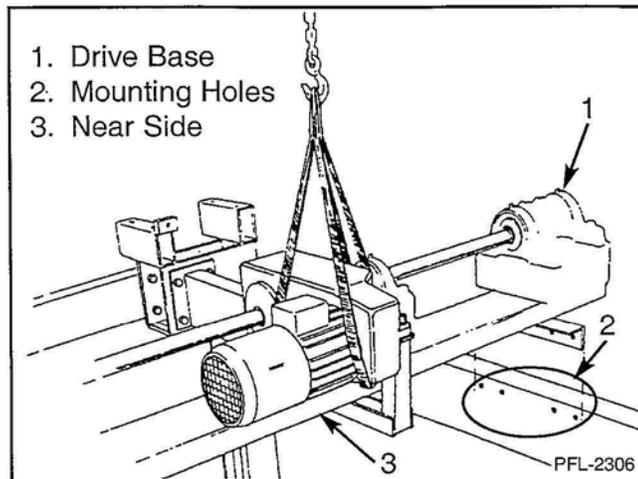

Figure 16
20. Line up the four mounting holes on the right and left channel braces with the holes in the drive base angle (at each end of the drive base). Bolt in position with 1/2" hardware provided, which consists of a bolt 1 1/4" long, nut, and lockwasher. See Figure 16.